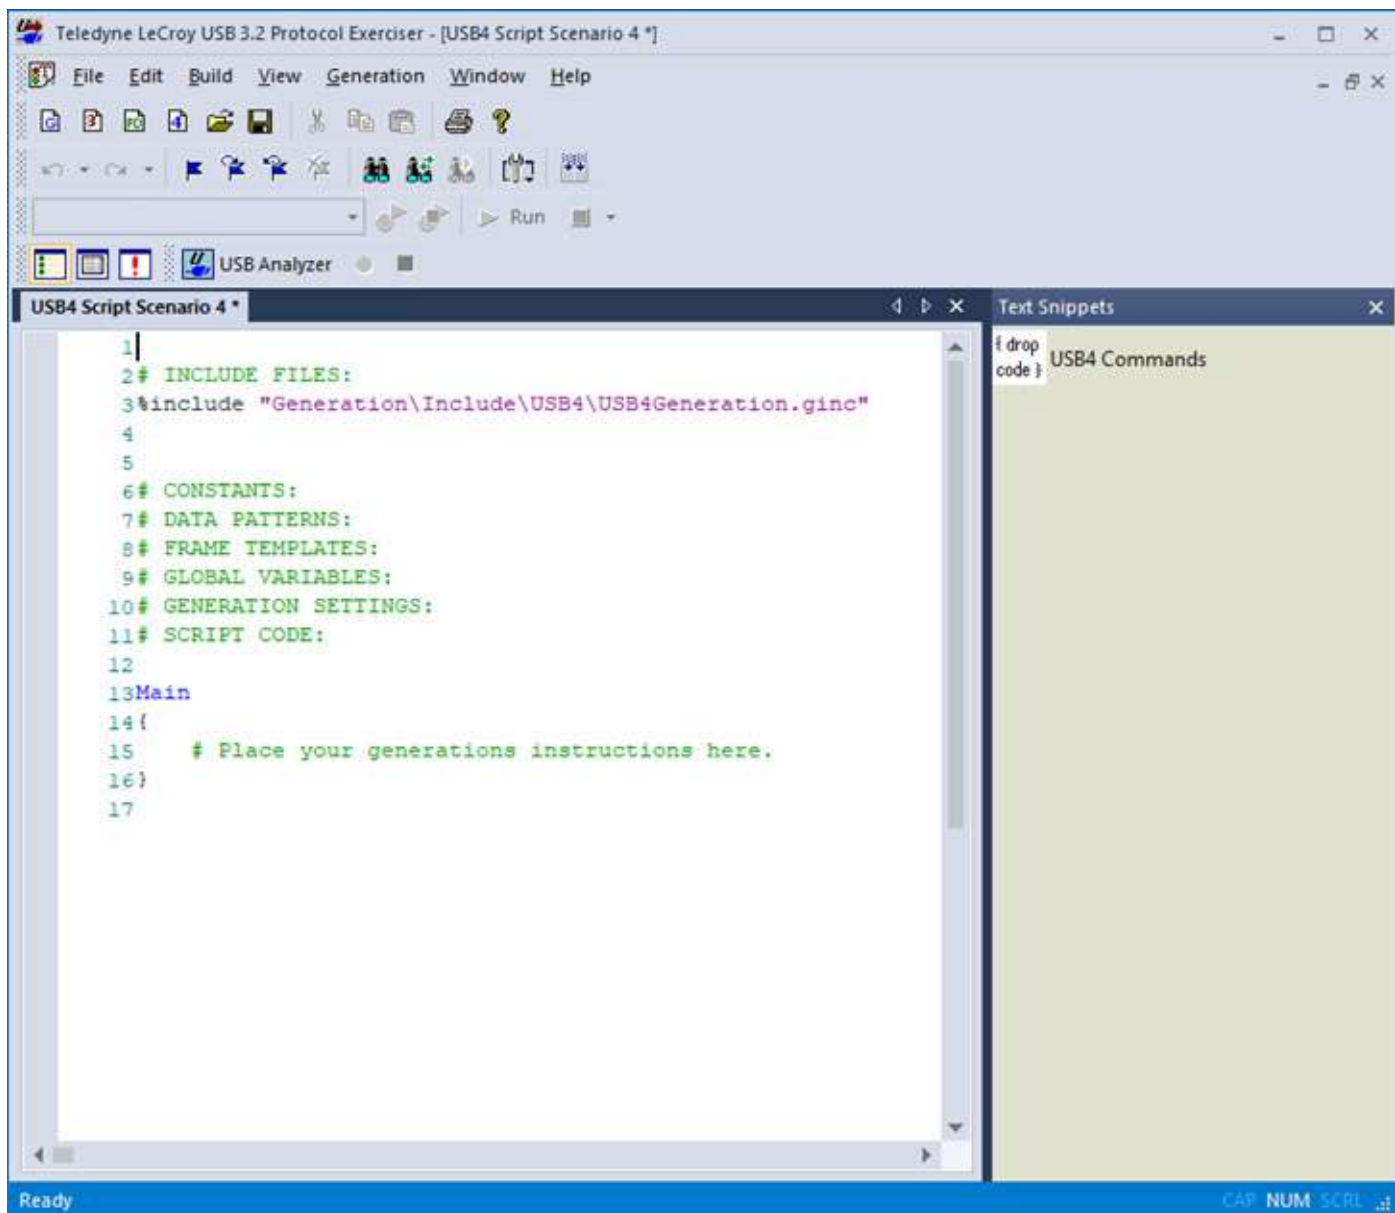

Figure 12.17: New USB4 Text Generation Scenario
- ☐ USB4: New USB4 Text Generation Scenario (see Figure 12.17 on page 701)